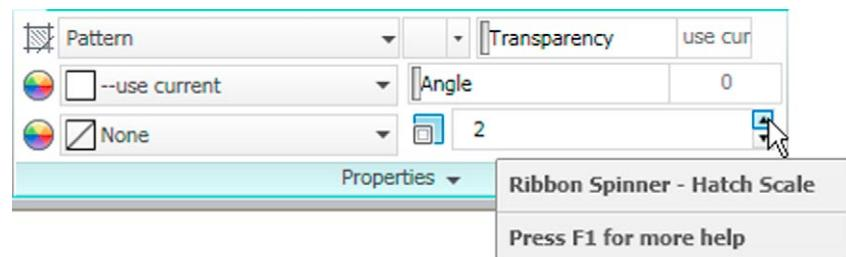

Fig. 7.14 Setting the Hatch Scale to 2 in the Hatch Creation/Properties panel
3. In the **Hatch Creation/Properties** panel adjust the **Hatch Scale** to 2 (Fig. 7.14).